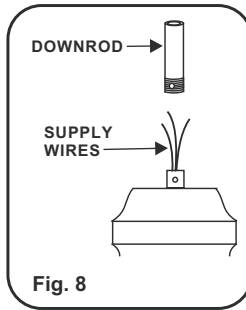

Fig. 8
Step 4. Carefully feed fan wires up through the downrod(Fig 8). Thread the rod into the coupling, next line up holes and replace lock pin and hitch pin. Tighten set screws.